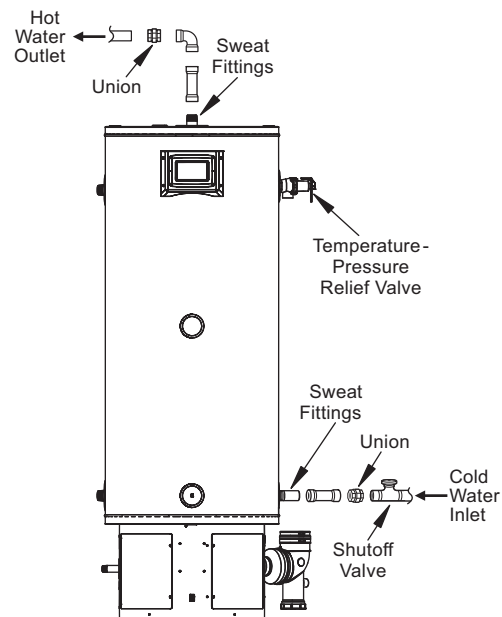

Figure 9
**NOTE:** To protect against untimely corrosion of hot and cold water fittings, it is strongly recommended that di-electric unions or couplings be installed on this water heater (see Figure 9) when connected to copper pipe.
Figure 9 also shows the typical attachment of the water piping to the water heater. The water heater is equipped with 1" NPT connections for all models.